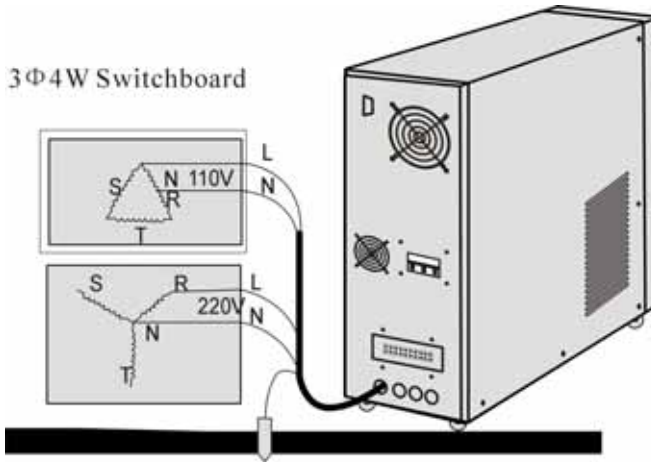

Figure 16
8. Try to make the ground close to connecting point of grounding club or origination point in switch- board. Please refer to figure 16.